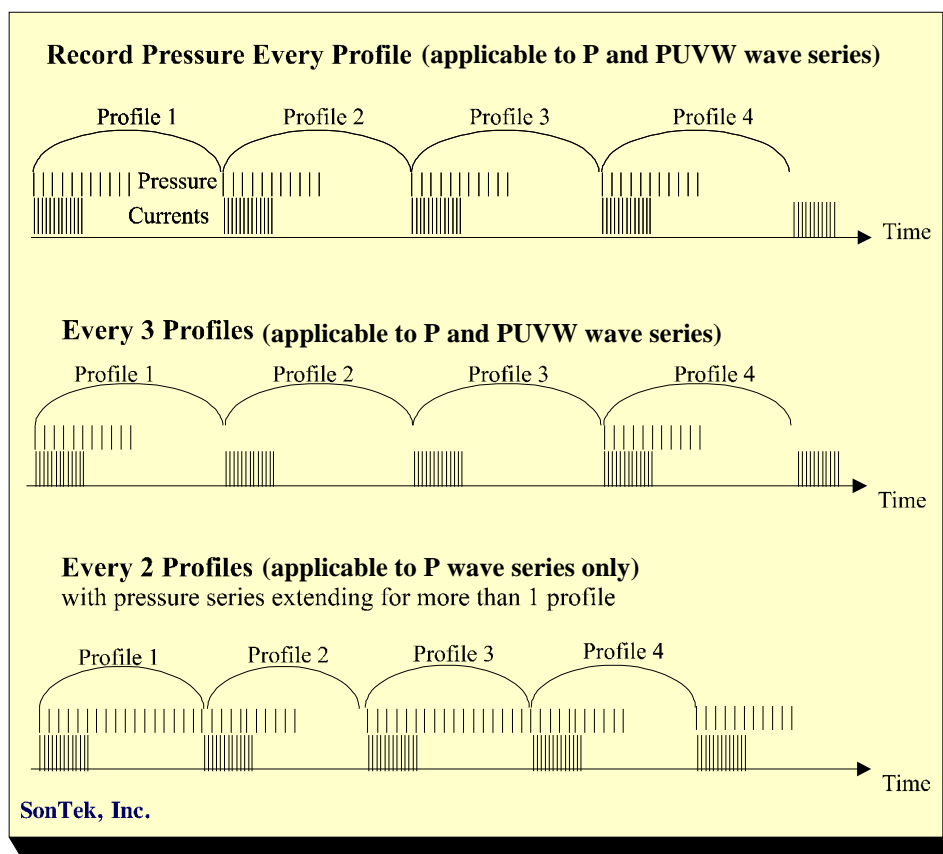

Figure 15: Examples of different sampling strategies for recording pressure time series using the SONWAVE/SONWAVEPRO package.
The SONWAVE/SONWAVEPRO wave data collection packages allow the ADP to collect wave height data, including the wave-frequency spectra. To facilitate wave measurements and reduce demands on power and storage capacity of the ADP, SonTek implemented the following scheme for pressure data collection. Beginning with firmware version 7.1 (February, 2001), commands were added to process wave times-series data for pressure (P) and horizontal (UV) velocities. When wave data collection is enabled, the ADP samples the pressure sensor at a specified rate for a specified duration and stores raw pressure data in the recorder. You can choose how often the pressure series needs to be collected: one pressure record every n^{th} profiles (Figure 15).